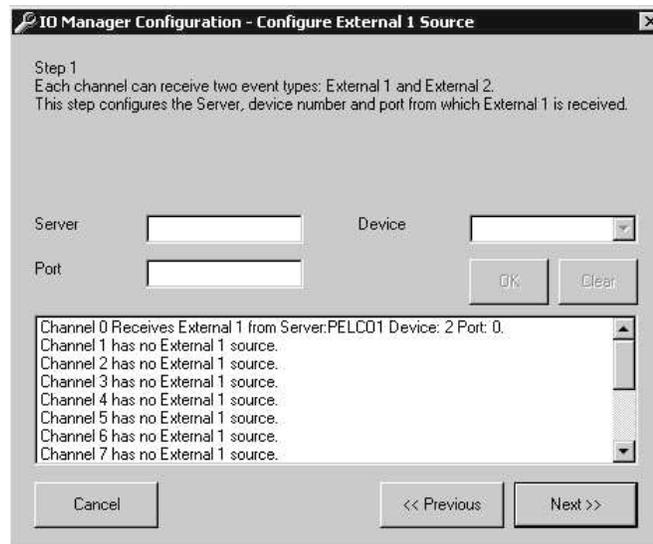

Figure 75. Sample Configuration for External 1 Source
7. Click OK. The information you entered appears on the screen, as shown in Figure 75.